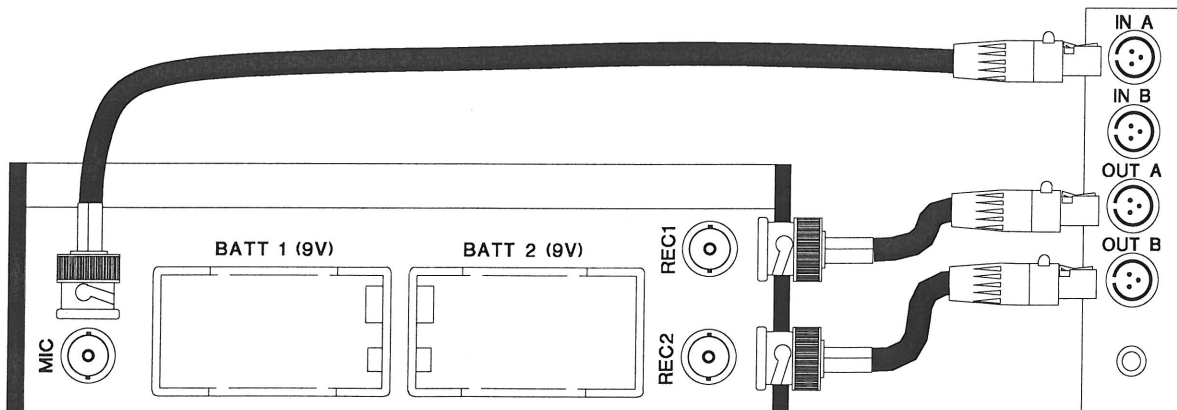

Figure 1. Connections from DSP-16 to Driver-Preamp
2. Attach the input / output cables on the Driver-Preamp as shown in fig. 1.